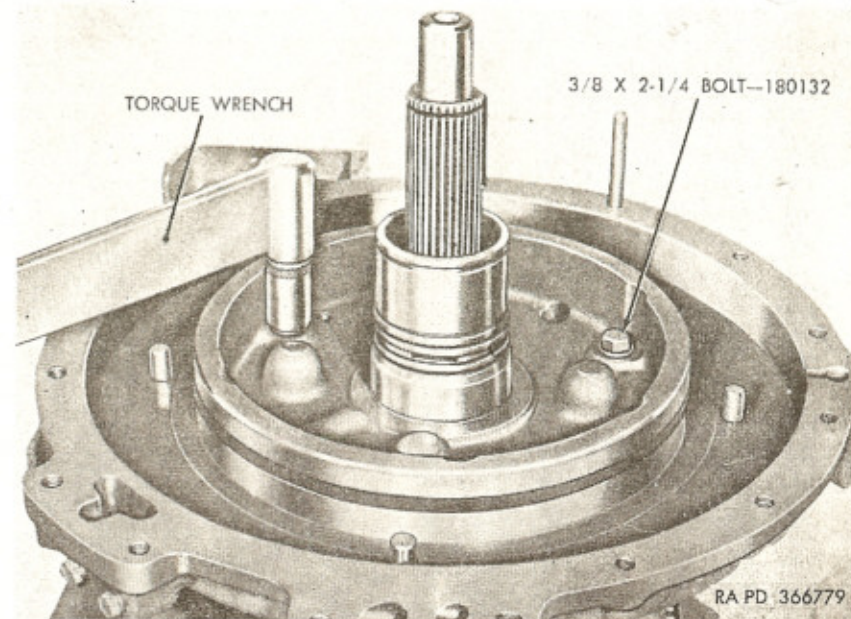

Figure 197. Tightening bolts attaching output shaft bearing retainer to transmission case (303M).
j. Install six $\frac{3}{8}$ x $2\frac{1}{4}$ bolts (fig. 197) and six $\frac{3}{8}$ -inch lockwashers which attach bearing retainer to transmission case. Tighten bolts to 32 to 37 pound-feet torque.